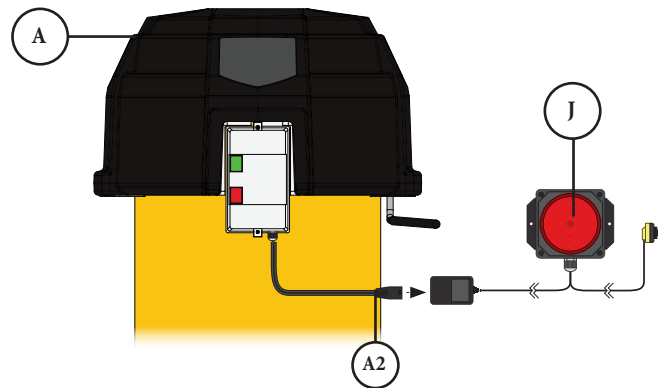

FIG. 23
Take the Tubing Assembly (G16) and route it through the closest retaining hole located in the back corner of the Wall Bracket (F) [FIG. 23].
Connect the Dust Sentry's power adapter (J) to the Dust Sentry Cord (A2) on the Motor Assembly's (A) magnetic starter. The Dust Sentry (J) should be mounted in a highly visible area using adhesive strips or the Sentry's two mounting holes [FIG. 23].